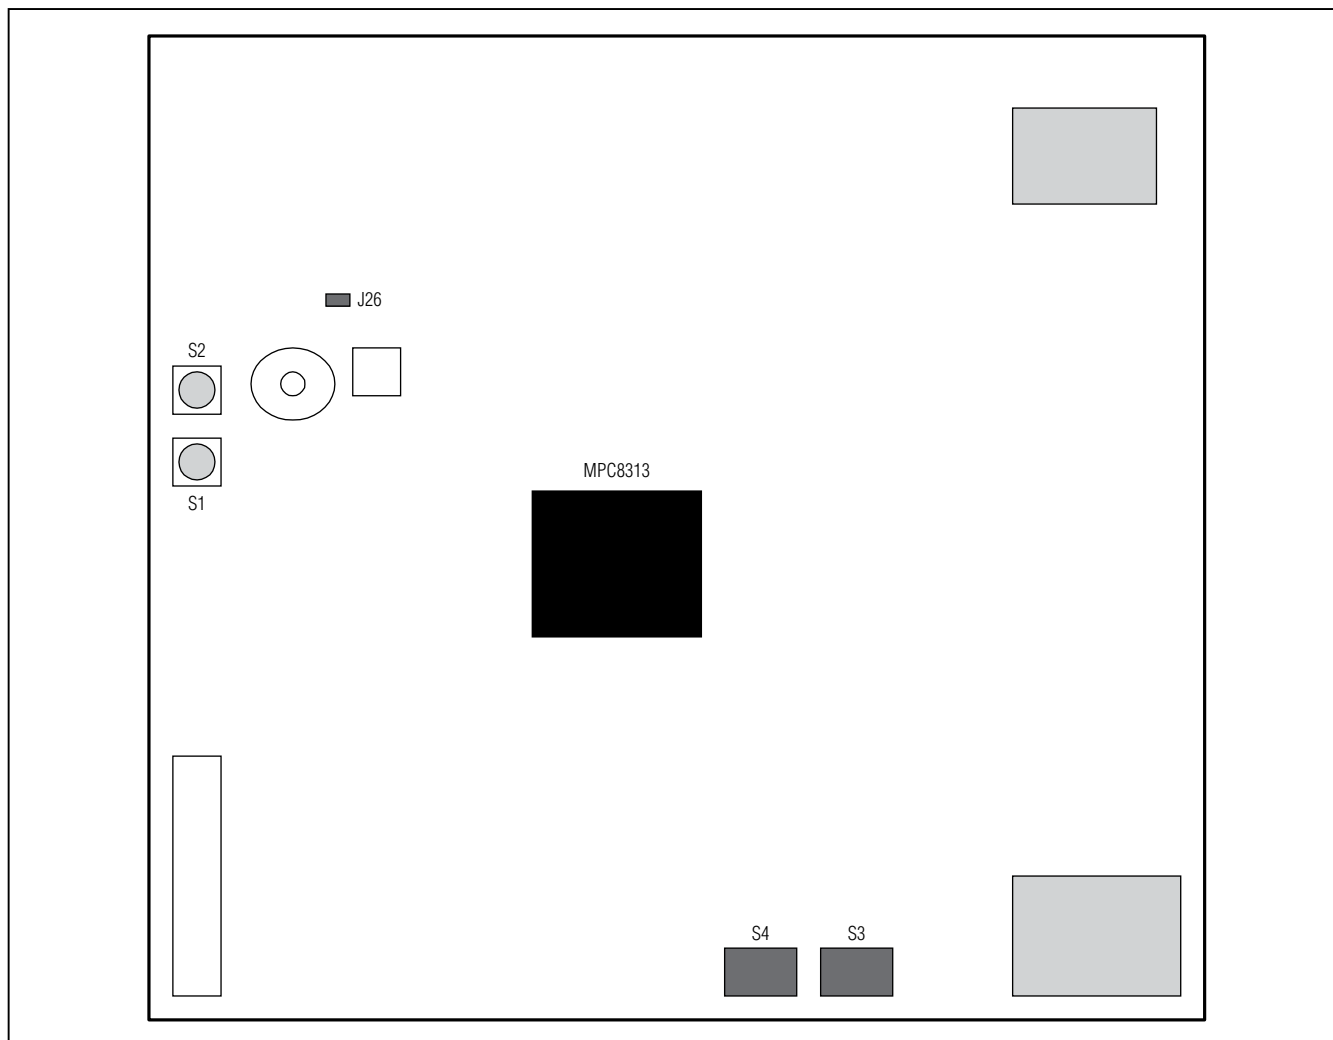

Figure 2-2. CPU Daughter Card Jumper Locations
- 1) See Figure 2-2 to locate internal jumpers on the daughter card.